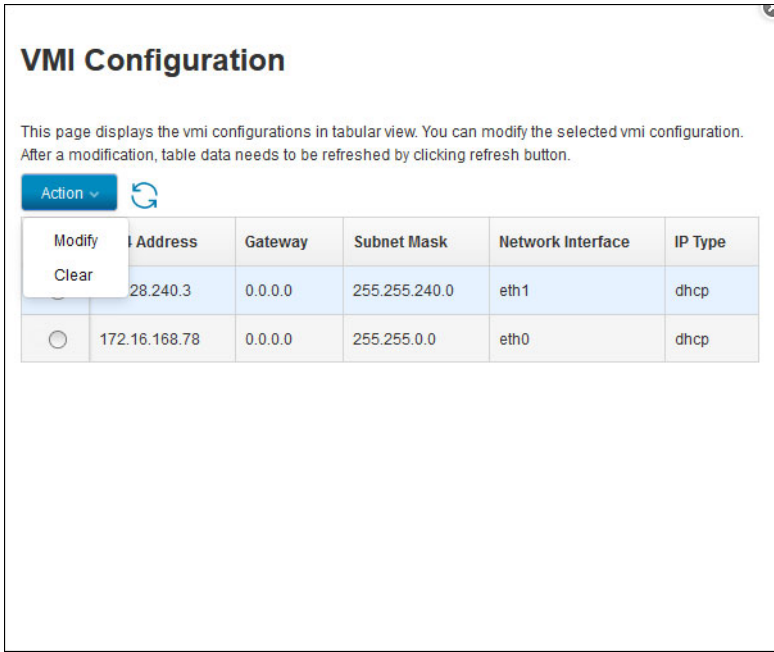

Figure 1-13 VMI configuration of a Power E1050 server
VMI supports both DHCP and static IP address configurations. After the server is connected to the HMC and configured by setting the access passwords, you may configure the VMI. To configure the VMI, click **VMI Configuration** in the HMC GUI, as shown in Figure 1-13. In the configuration dialog box, you may switch between DHCP or a static IP address. The default VMI connection setting (not the eBMC connection) for a new Power E1050 server is static, so if you want to use DHCP, you must change the configuration from static to DHCP before you power on the server.
5. Configure the VMI to change from static to DHCP, as shown in Figure 1-13.